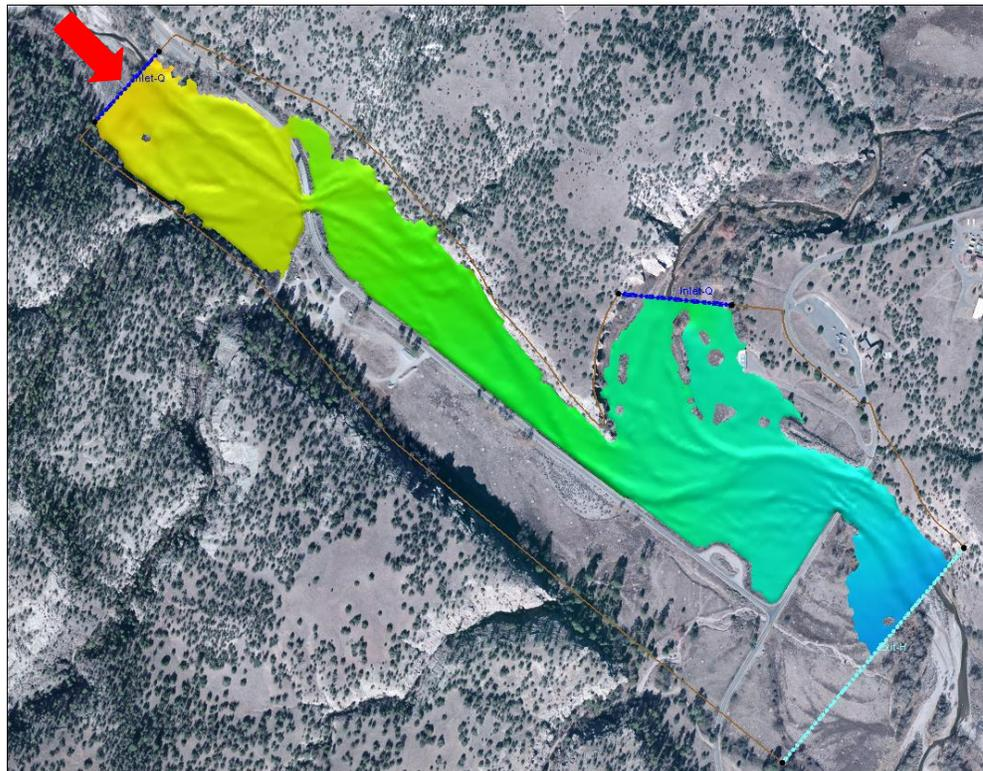

Figure 7 Inlet Q boundary condition
4. Use the **Select Feature Arc**  tool to double-click on the *Inlet Q* boundary condition shown in Figure 7. This should open the *SRH-2D Linear BC* dialog.